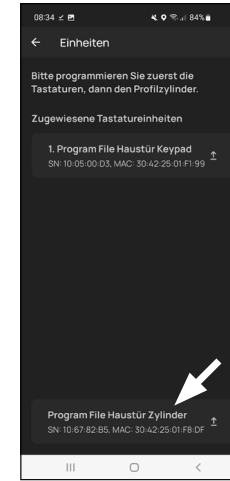

Fig. 10
- ⑩ To transfer the cylinder data, tap on "Program File <Cylinder name>" (In this example "Front door cylinder") (Fig. 10).